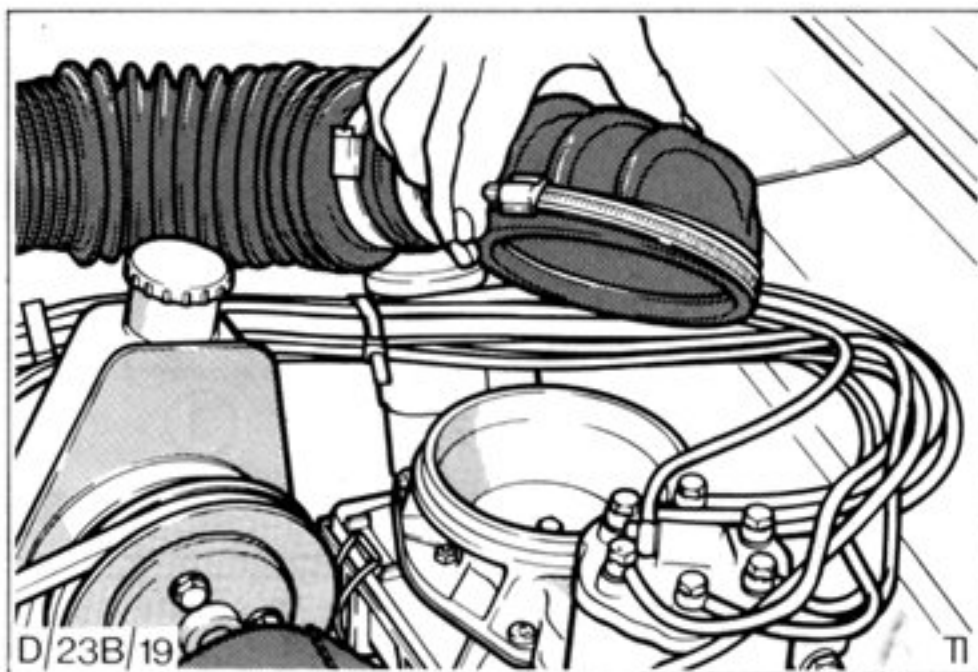

Fig.49. Disconnecting main air hose at air flow sensor.
5. Disconnect main hose at the mixture control unit, Fig.49.